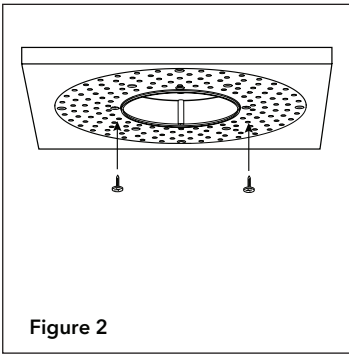

Figure 2
2. Pass connected power supply through ceiling opening and secure in ceiling, leaving power wires exposed for later connection to luminaire (Fig. 2).
2. Attach mud ring to ceiling with screws (Fig. 2).